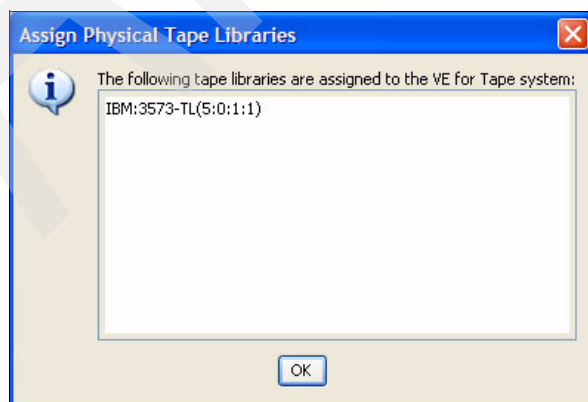

Figure 6-68 Discover new devices: Confirm successful library assignment
7. In the panel shown in Figure 6-68, confirm the library assignment was successful. Click **OK**.